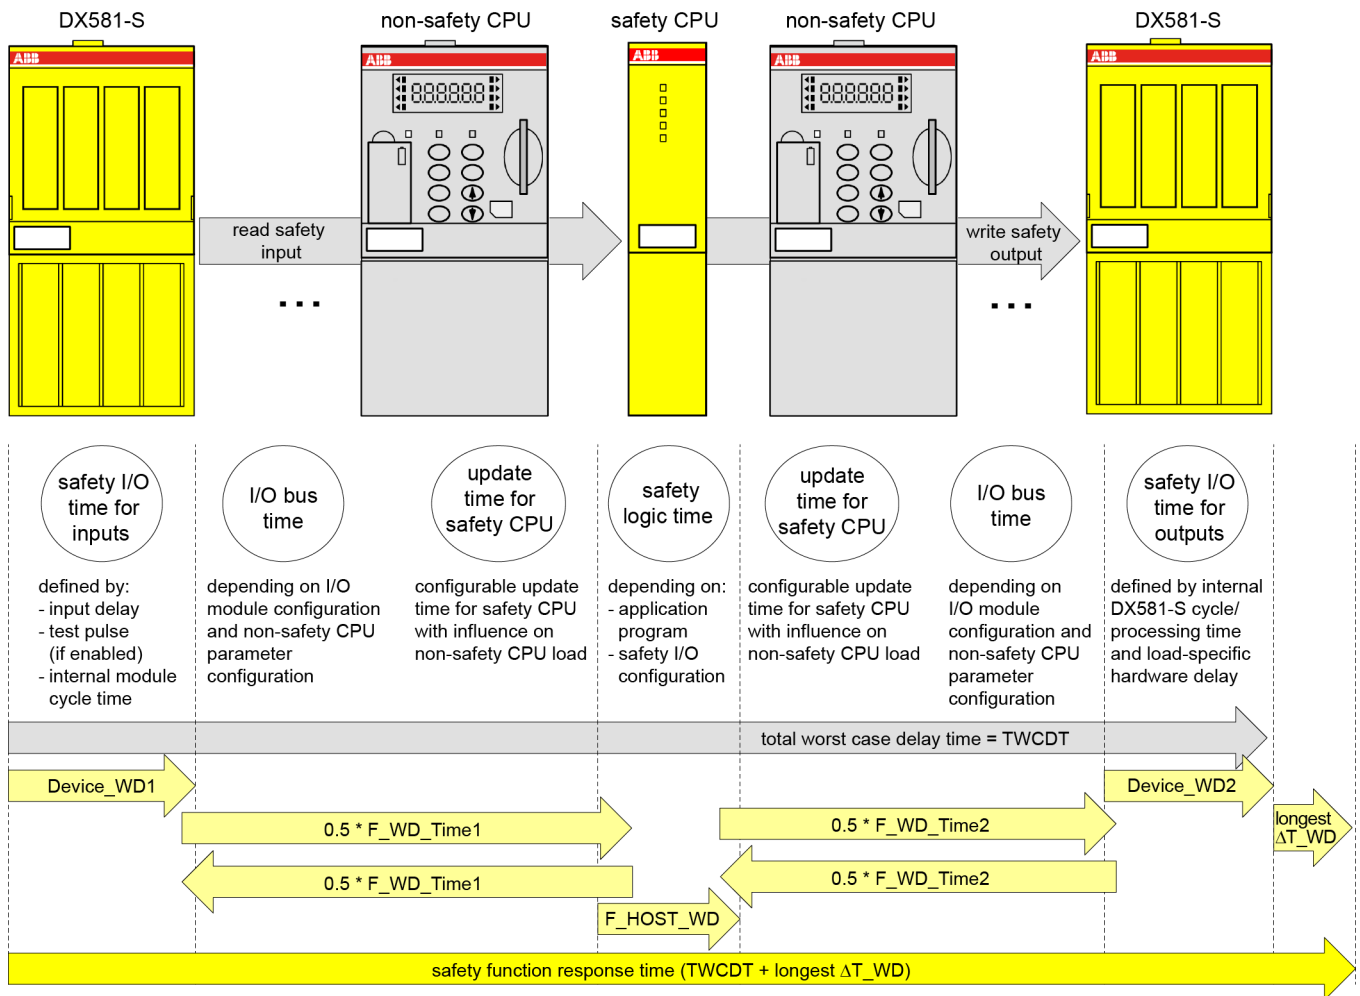
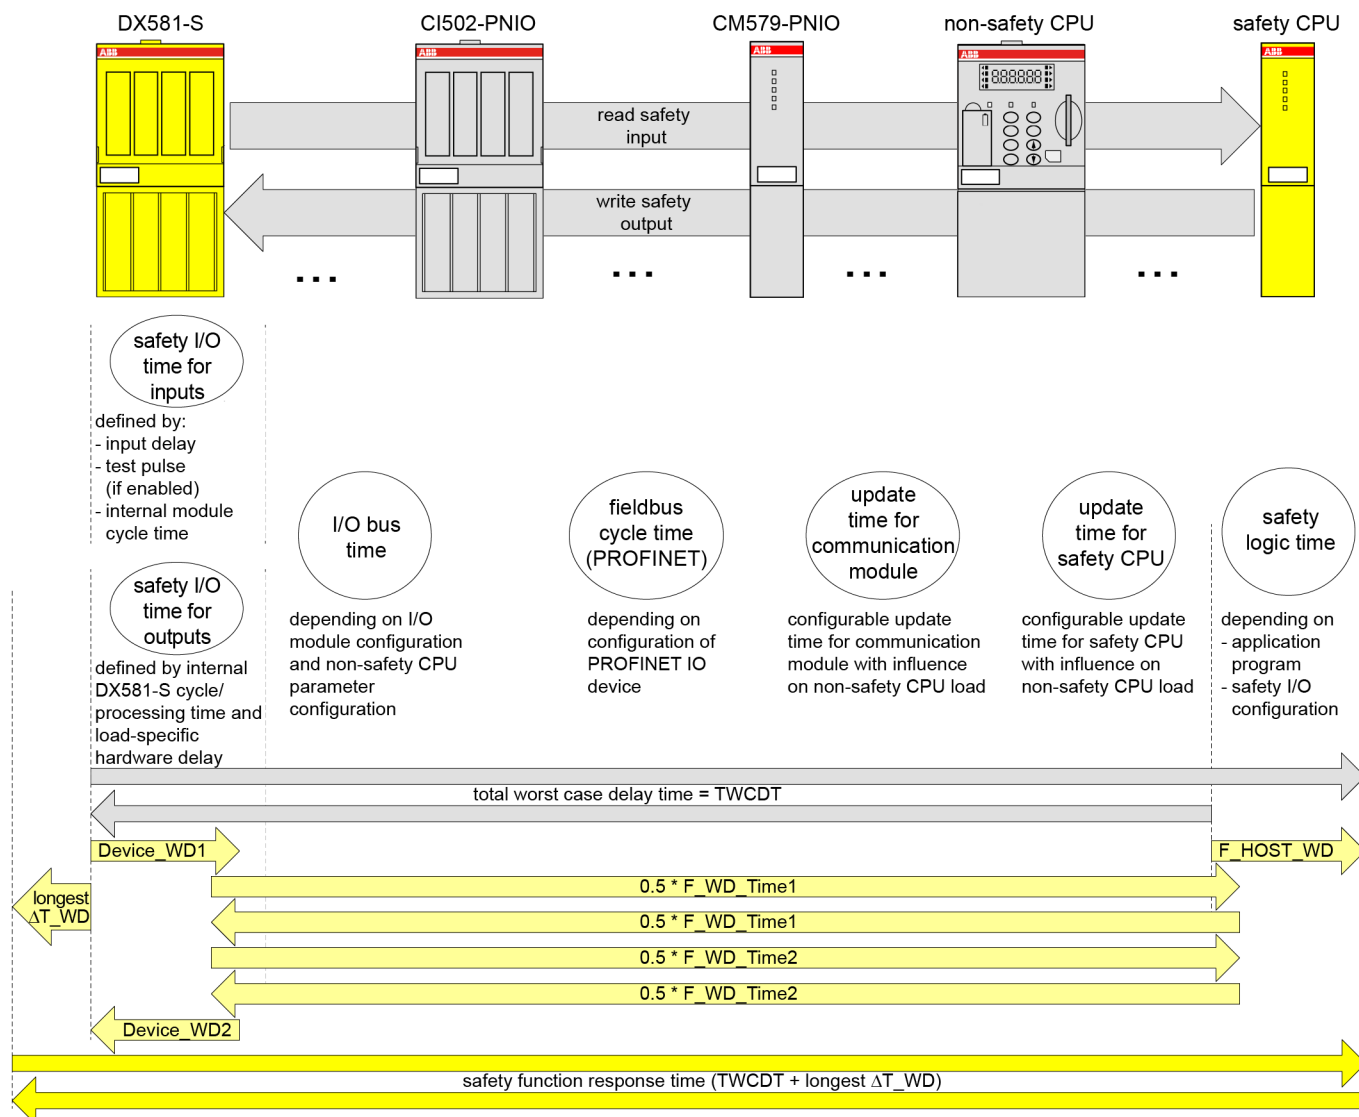
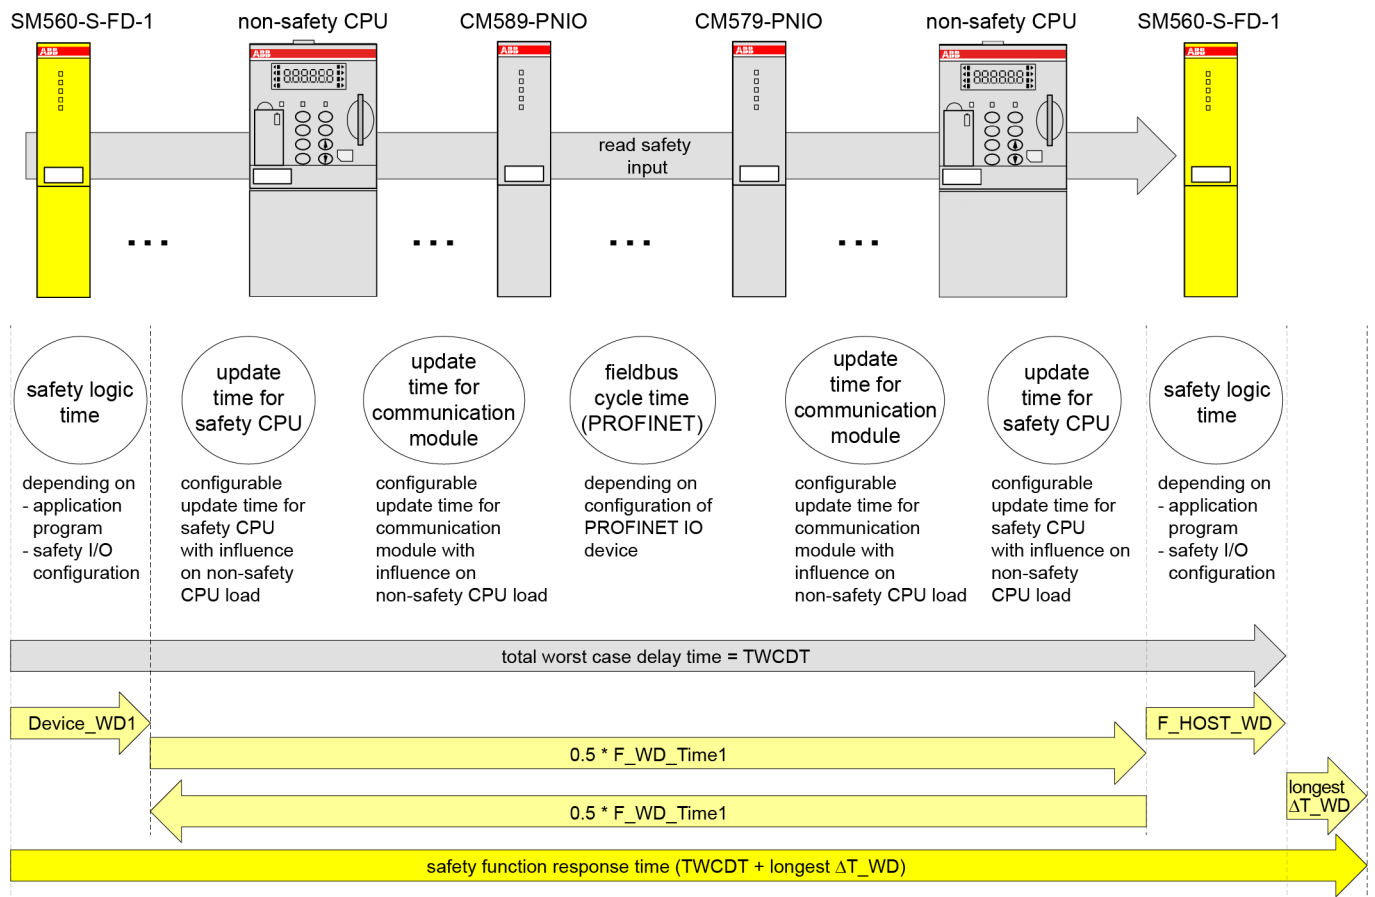

Fig. 122: SFRT in AC500-S system without PROFINET components
Fig. 123: SFRT in AC500-S system with PROFINET components and safety I/O modules
Fig. 124: SFRT in AC500-S system with PROFINET components and safe CPU to CPU communication (example: SM560-S-FD-1 to SM560-S)
Fig. 122, Fig. 123 and Fig. 124 explain SFRT in more details. The model in Fig. 122 and Fig. 123 includes the stages of input signal reading, safe data transfer, safe logic processing, safe data transfer and safe signal output. The model in Fig. 124 presents safe CPU to CPU communication, which includes the stages of safe logic processing, safe data transfer and safe logic processing.
The following terms are defined in Fig. 122, Fig. 123 and Fig. 124 (in alphabetical order):
- Device_WD1 and Device_WD2, as worst case delay times for safety I/Os, can be defined as it is shown in Fig. 122 and Fig. 123.
- To calculate the worst case delay time of "Black channel" components (refer to AC500 non-safety modules in Fig. 122 and Fig. 123), we propose to use half of F_WD_Time1 and F_WD_Time2 instead. F_WD_Time1 and F_WD_Time2 can be empirically obtained for the given AC500 system configuration by tracing the values of tResponseTimeMS for given safety I/Os in the safety application. Use PROFIsafe instance for the given safety I/O
Based on Fig. 122, Fig. 123 and Fig. 124, the following exemplary SFRT values can be achieved for some typical AC500-S configurations using ↪ *Equation 2 on page 329:*